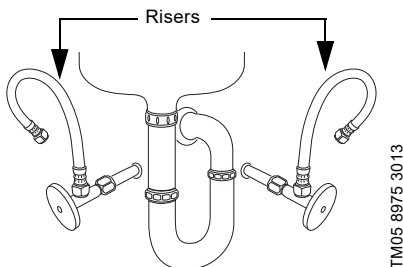

Fig. 4 Disconnect the risers before installing the bypass valve
2. Disconnect the risers; see fig. 4.